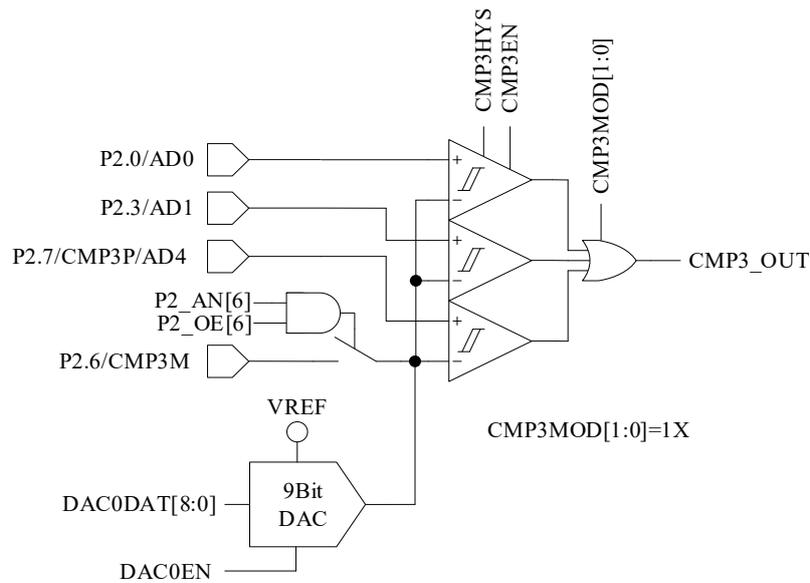

Figure 30-4 Triple-comparator Input Mode (FS9636AS does not support)
- When CMP_CR1[CMP3MOD] = 1X, CMP3 works in triple-comparator input mode. The connection of input and output pins are as shown in Figure 30-4.